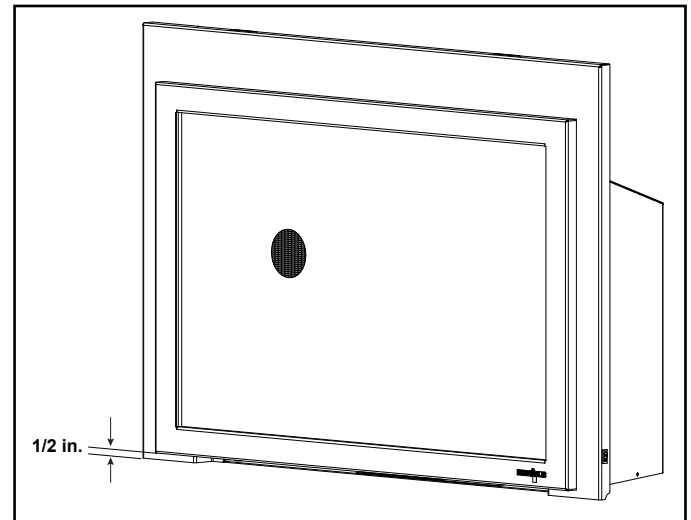

Figure 3.16 Minimum Required 1/2 in. Gap to Bottom of Front
- 1/2 inch gap under the bottom of the front must be maintained. See Figure 3.16.